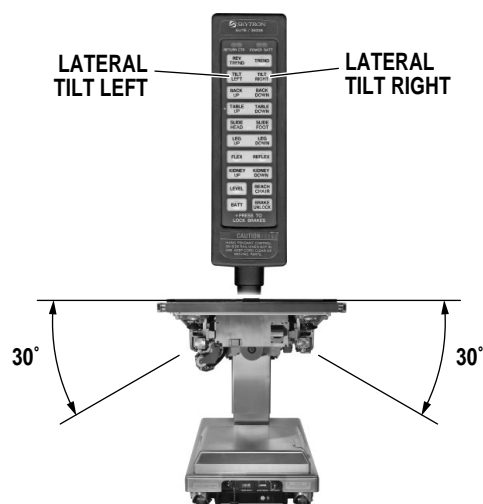

Figure 2-7. Lateral Tilt Positioning
**c. Lateral Tilt.** To achieve lateral tilt right (as viewed from the head end of the table), press the TILT RIGHT button (figure 2-7). To achieve lateral tilt left, press the TILT LEFT button. Tilt of up to 30° may be obtained.